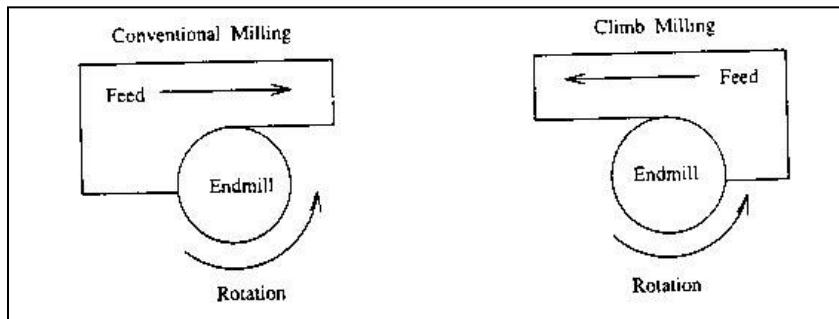

Figure 46: The Difference Between Conventional and Climb Milling.
- Mill the 5/8" section, using cutting fluid. CAUTION: It is extremely dangerous to put your fingers or a fluid brush near a moving end mill. DO NOT DO IT! Cut all the way to the scribed lines. Use conventional milling (See Figure 46). Never cut deeper than 0.050" along the vertical